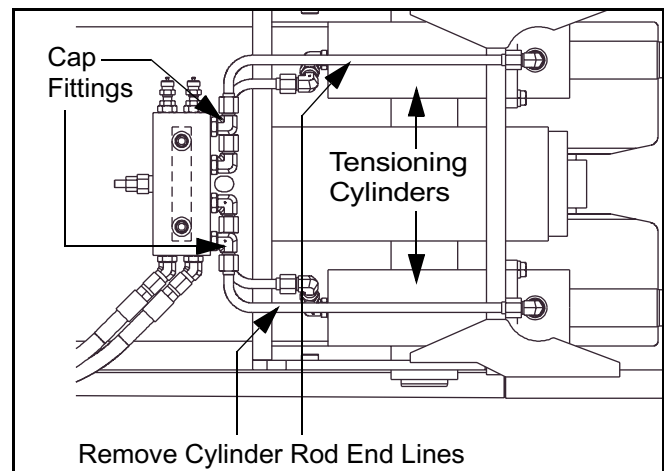

Figure 5 - 20 Track Tensioning Cylinders
- 1) Install pressure gauge (3000 psi) at test ports marked BTM and ROD on the tension release valve (Figure 5 - 19).